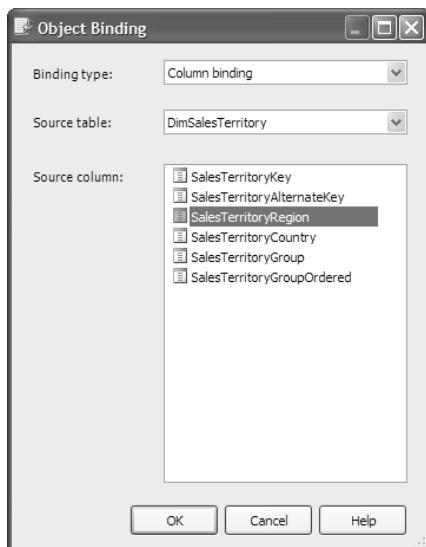

Figure 4.4 Use the Object Bindings dialog to bind to a column that supplies the member name.
2. Expand the *NameColumn* property and select *(new)*. The Object Binding dialog appears (Figure 4.4).